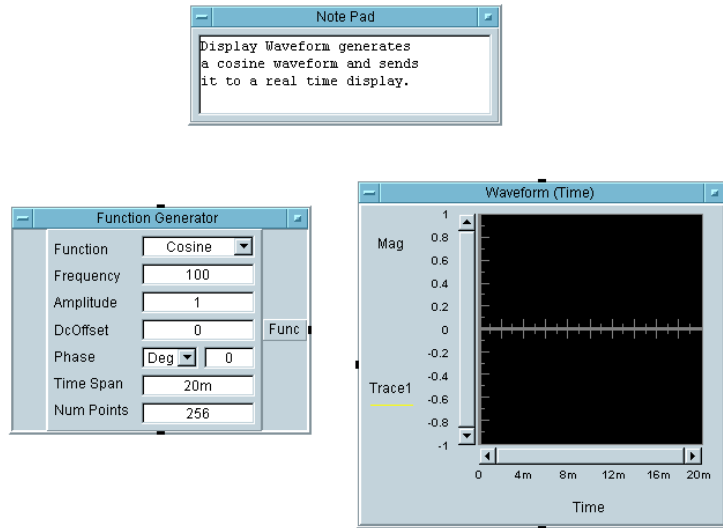

Figure 1-25. Creating a Program
3. Add the *Waveform (Time)* object. Select *Display* ⇒ *Waveform (Time)* and place the object to the right side of the work area as shown in Figure 1-25.
In Figure 1-25, the Func label on the Function Generator object denotes a **data output pin**, and the Trace1 label on the Waveform (Time) object denotes a **data input pin**. In VEE programs, you connect the data pins among the objects, and this determines the flow of the program.